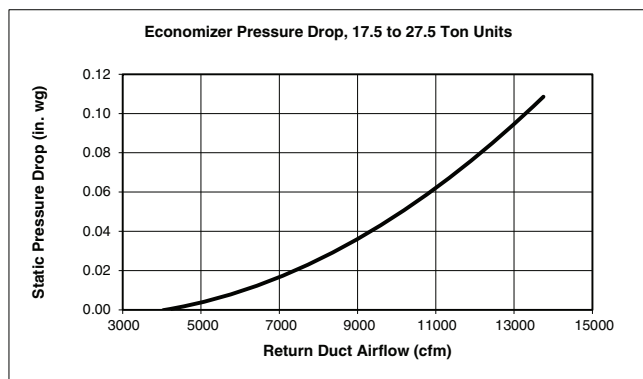

Fig. 65 — Economizer Static Pressure Drop
The standard controller is shipped from the factory configured for outdoor dry bulb changeover control. For this control mode, the outdoor temperature is compared to a selectable set point on the OAT sensor. If the outdoor air temperature is above the set point, the EconoMiSer IV will adjust the outdoor air dampers to minimum position. If the outdoor air temperature is below the set point, the position of the outdoor air dampers will be controlled to provide free cooling using outdoor air. When in this mode, the Free Cool LED next to the outdoor enthalpy set point (ABCD) potentiometer will be on. The changeover temperature set point is controlled by the dip switches on the sensor. See Fig. 63 for the switch positions corresponding to the temperature changeover values. The ABCD potentiometer on the controller should be turned fully clockwise (CW) to the “D” position. See Fig. 65 for damper leakage.